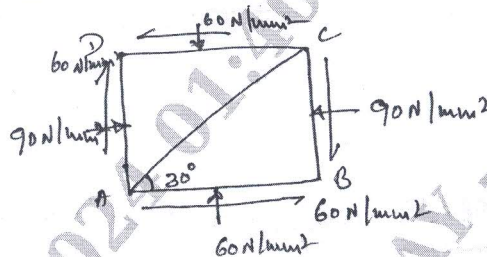

Fig. Q3 (c)
- c. The state of stress in a two dimensionally stressed body is as shown in Fig. Q3 (c). Determine